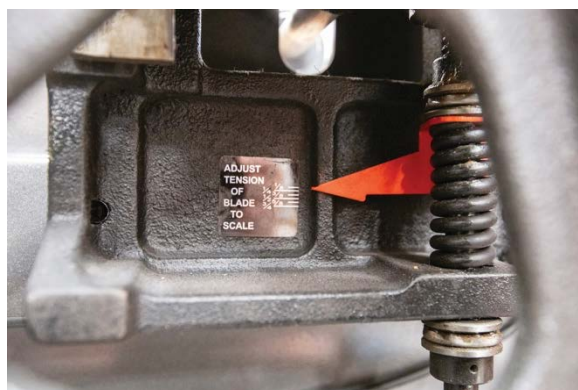

Figure 10-2
3. Raise upper guide post (C) by loosening guide post lock knob (A) and turning upper guide post handwheel (B) clockwise until it stops.
5. To increase tension, turn blade tension handwheel (D) clockwise. To decrease tension, turn blade tension handwheel counterclockwise.
6. Use blade tension indicator (Figure 10-2, as seen through upper blade wheel) as reference only. Measure proper blade tension using the finger pressure method in step 4.